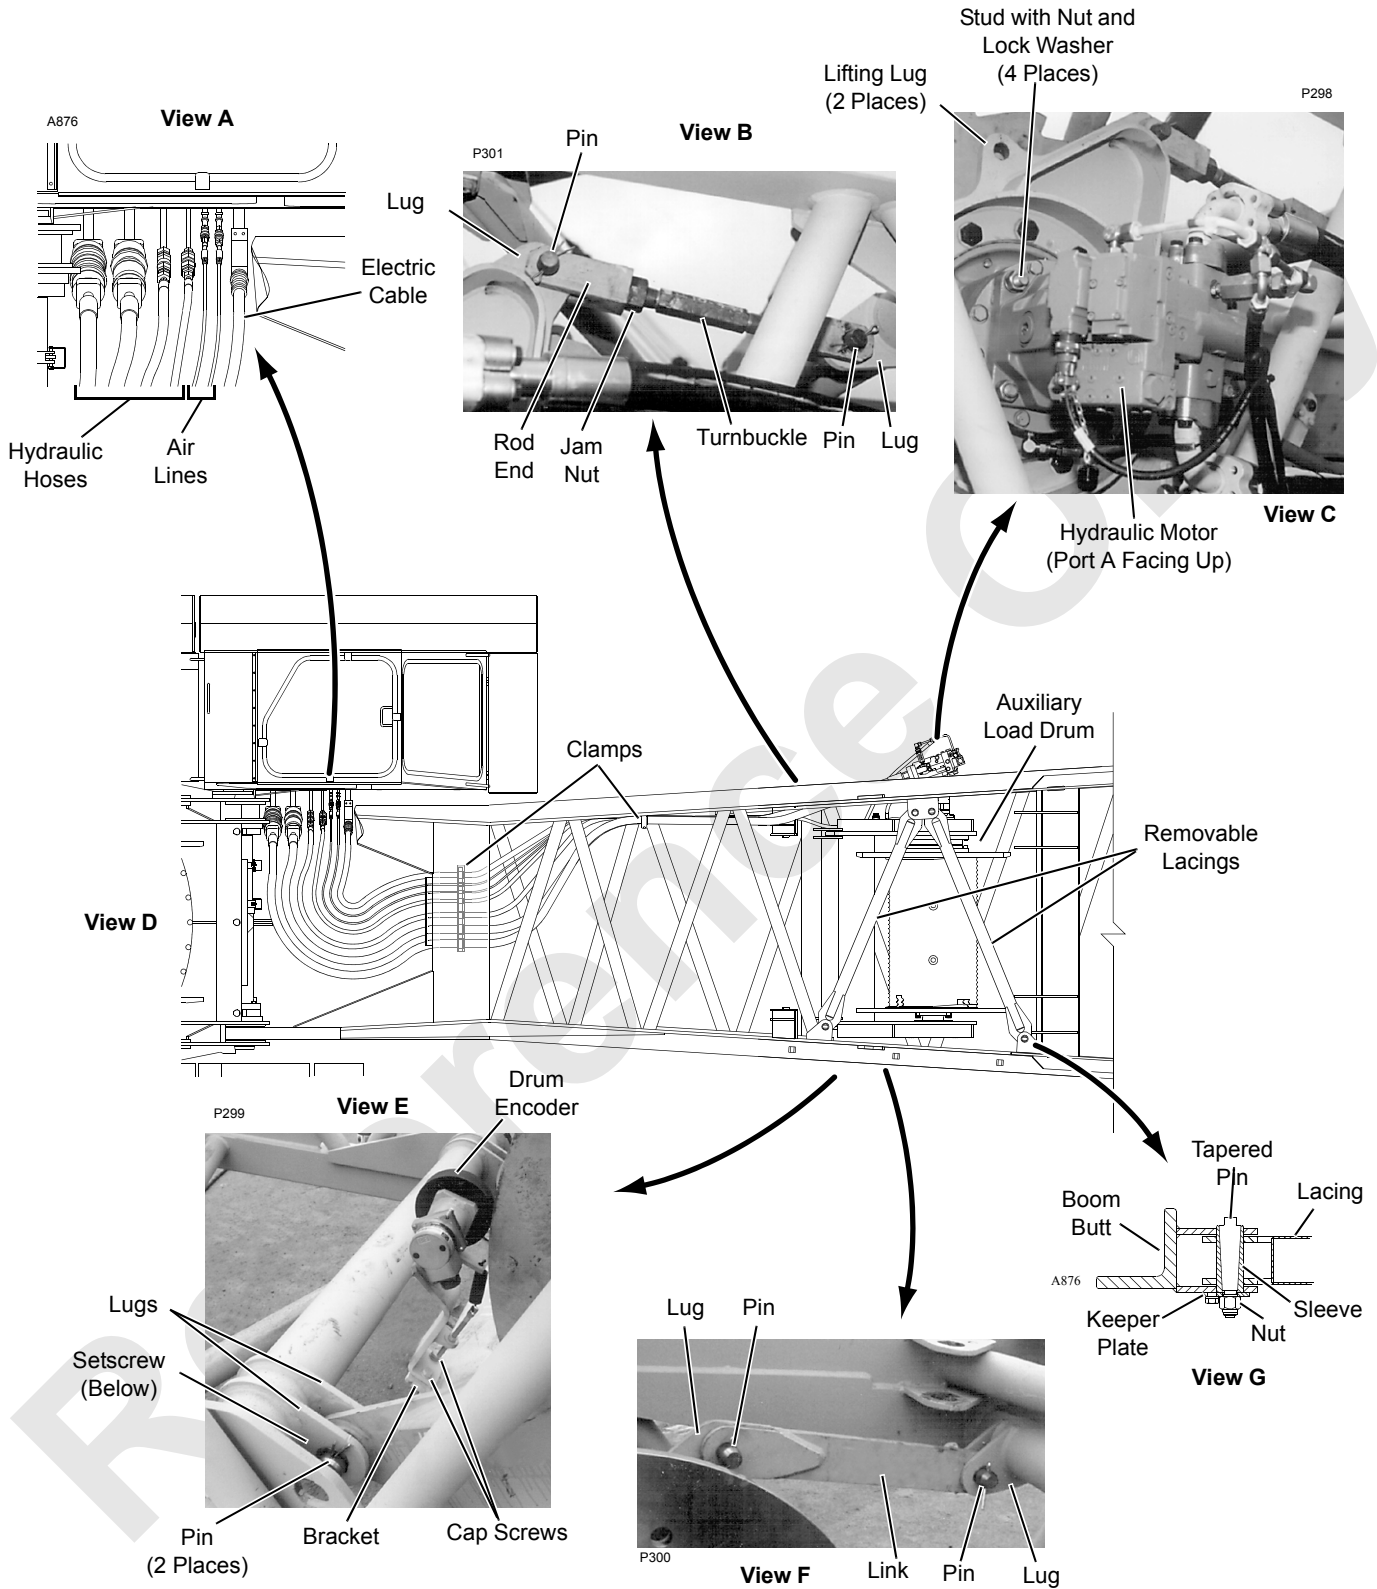

FIGURE 4-26
See Figure 4-26 for the following procedure.
1. Install clamp assemblies (Figure 4-26, View D) on boom butt (two places) for hydraulic hoses, air lines, and electric cable.
3. Connect hydraulic hoses and air lines to couplers at bottom right side of operator's cab (Figure 4-26, View A). Size and configuration of couplers make it impossible to hook up hoses or lines incorrectly.
4. Connect electric cable to plug at bottom right side of operator's cab (Figure 4-26, View A).
If butt is removed with auxiliary load drum installed, hydraulic hoses, air lines, and electric cable must be disconnected from couplers at bottom right side of operator's cab (Figure 4-26, View A).